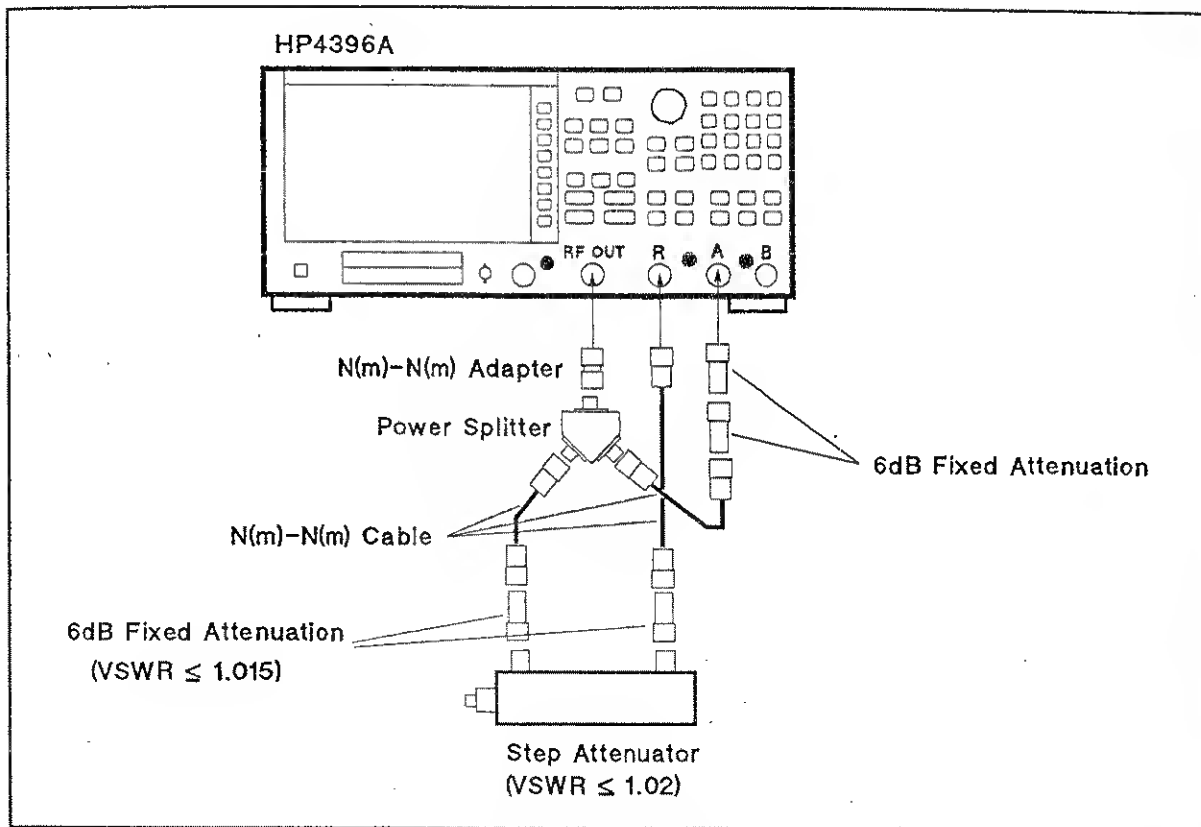

Figure 2-12. A/R Magnitude Ratio/Phase Dynamic Accuracy Test Setup 1
- Connect the test equipment as shown in Figure 2-12.